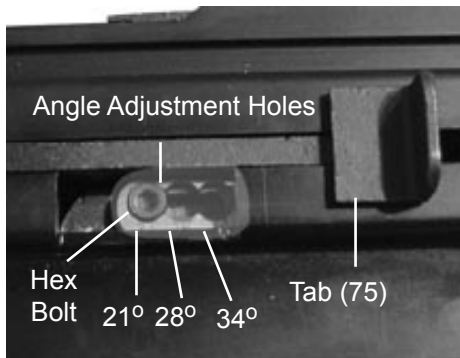

Figure 3
1. Pull back and engage the Tab (75), exposing three adjustment holes. Loosen the hex bolt and slide it into the appropriate hole (21°, 28°, 34°). Retighten the hex bolt securely, making sure it fits into the appropriate hole properly. See **Figure 3**, above. Gently release the Tab.